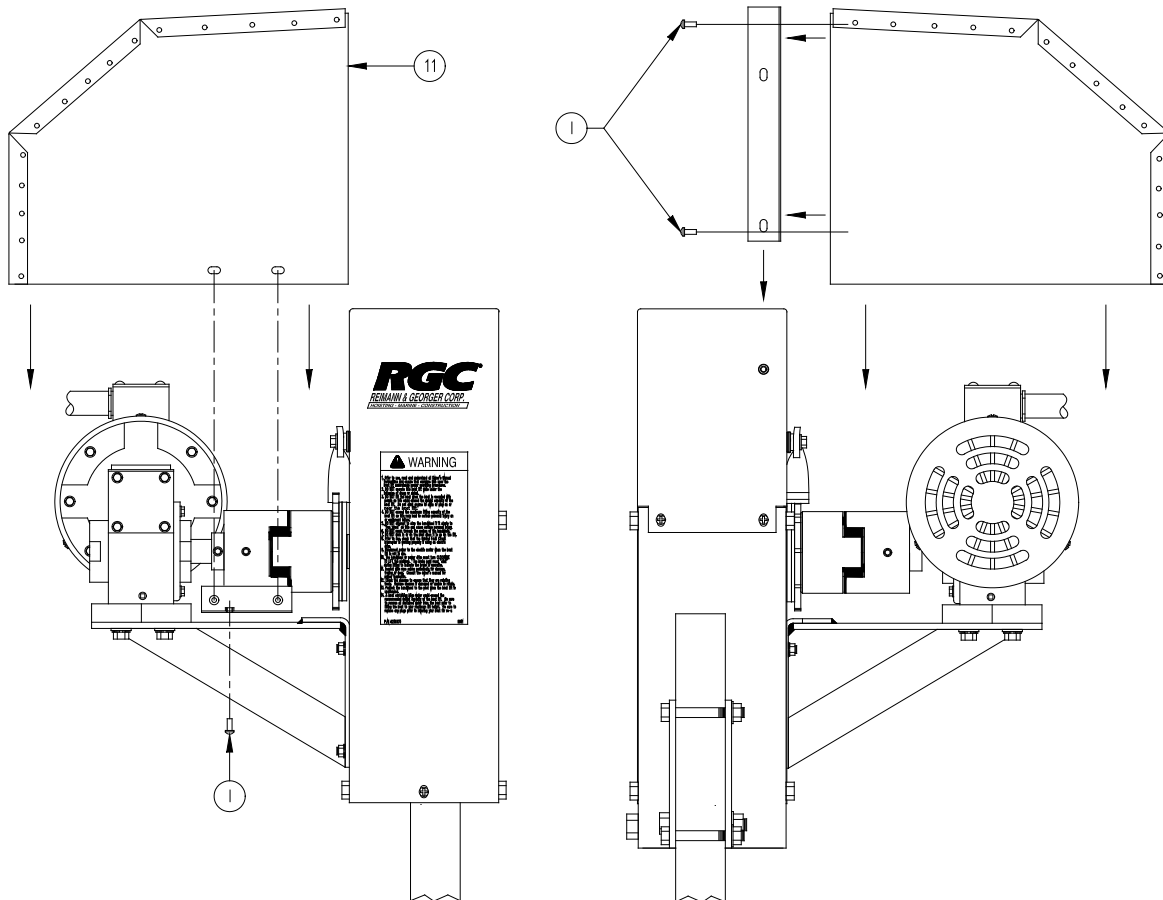

Figure 3-4
1. Refer to Figure 3-4, Using a #2 Phillips screwdriver, fasten the long winch mounting bracket to the backside of cover with 1/4 -20 x 1" machine screws.